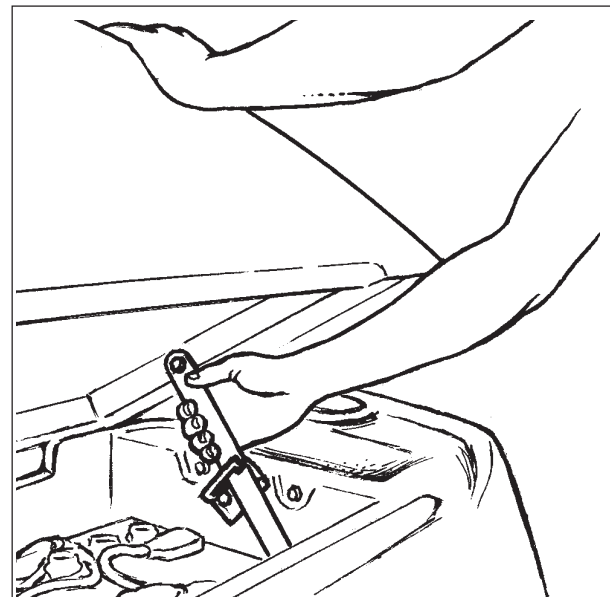

Figure 13B
**NOTE:** There is an intermediate position available for holding the recovery tank open for charging batteries. See figure 13B.
To place the tank in the intermediate position, pull up on the latch arm while raising the recovery tank until it slips into the knotch area of arm. While pulling up on the latch arm, carefully lower the recovery tank making sure it is securely locked into place. See figure 13B. To release the latch arm, tip the recovery tank up slightly while pushing down on the latch arm and then slowly lower the tank.